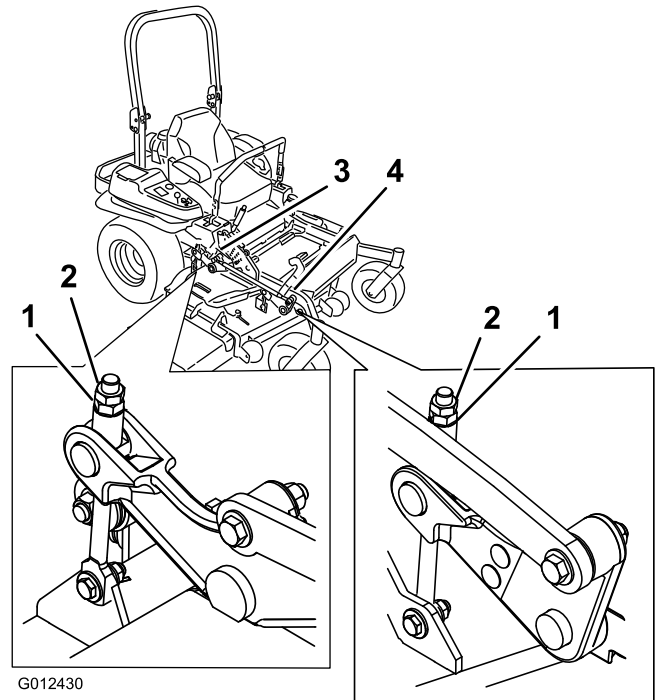

**Figure 90**
9. On both sides of the deck, measure from the level surface to the front tip of the blade (Position A). The measurement should read 7.6 mm (3 inches) (Figure 90).
15. On both sides of the deck, measure from the level surface to the back tip of the blade (Position B). The measurement should read 8.3 cm (3-1/4 inches) (Figure 90).